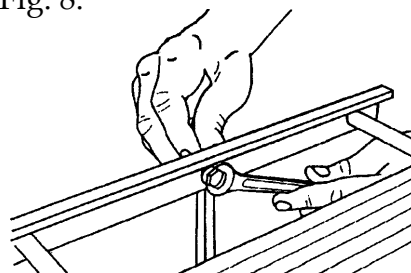

Fig. 8
10. When the vertical arm is square with the extension bar, use a 7/16" wrench to securely tighten the bolt (2), as demonstrated in Fig. 8.